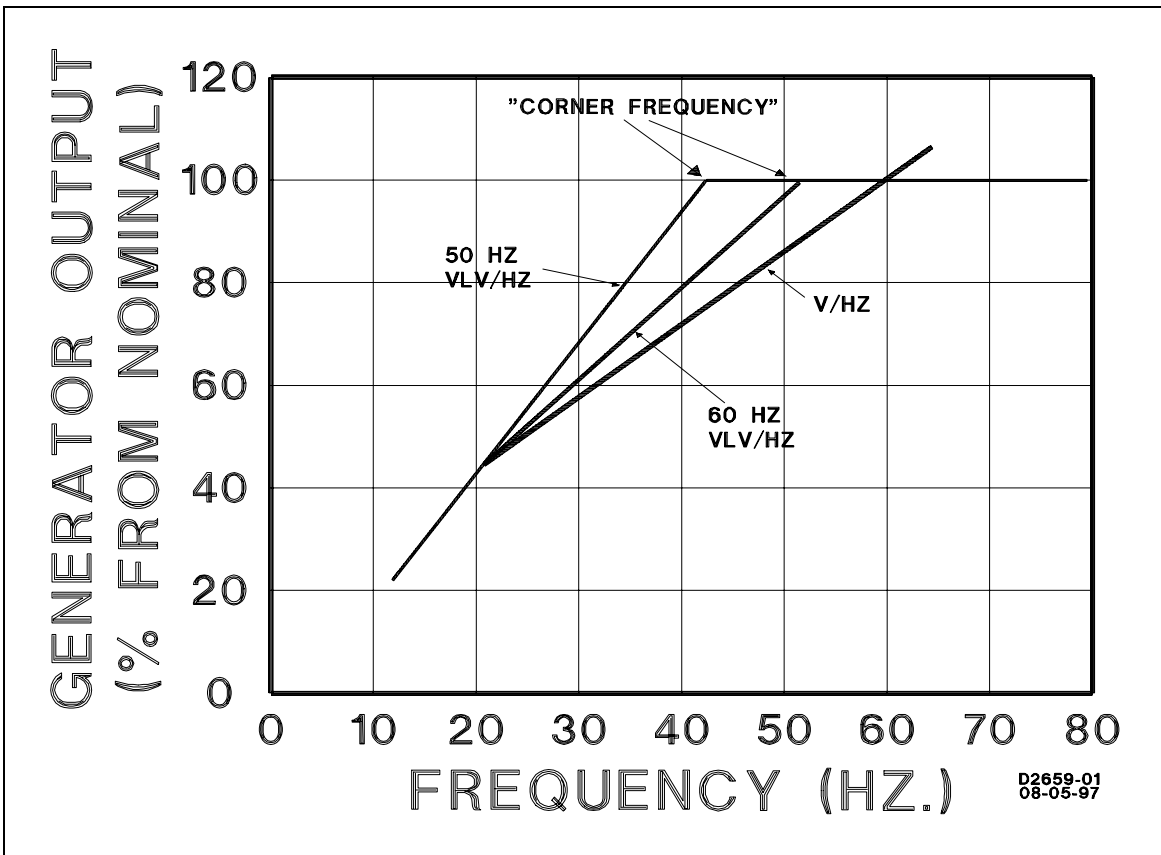

Figure 1-1. Frequency Compensation Curves.
a. Volts-per-Hertz (V/Hz). This is a linear relationship between voltage and frequency and is shown in Figure 1-1. This characteristic is generally used to improve system block load pick-up performance by restraining the voltage recovery until the frequency has also started to recover. A front panel **UF ADJ** control is used in conjunction with a **VOLT** control to provide adjustment of the V/Hz characteristic along both the frequency axis (45 to 65 Hz) and the generator axis of Figure 1-1. This characteristic factory preset at 55 Hz (60 Hz nominal).
b. Voltage Limited Volts-per-Hertz (VLV/Hz). This characteristic provides the advantage of the Volts-per-Hertz characteristic during load application as well as allowing precise voltage regulation during minor variations in generator speed. The "60 Hz" and "50 Hz" curves of Figure 1-1 represent the 60 Hz and 50 Hz VLV/Hz characteristic. The front panel **UF ADJ** control provides adjustment of the corner frequency of both VLV/Hz characteristics along the frequency axis of Figure 1-1.